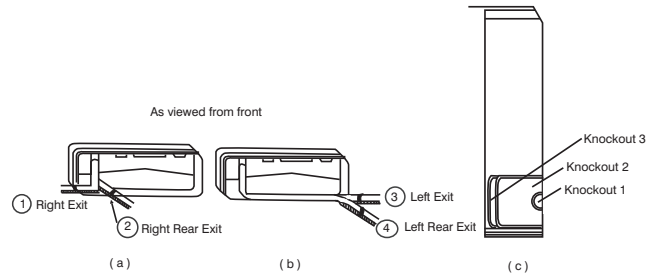

Fig. 7 – Refrigerant Line Routing
The refrigerant lines may be routed in any of the four directions shown in Fig. 7 (a) and (b).
1. Use a small saw blade to carefully remove the corresponding plastic covering on side panel and drill the appropriate size hole where the pipe is going through the wall. See Fig. 7(c).